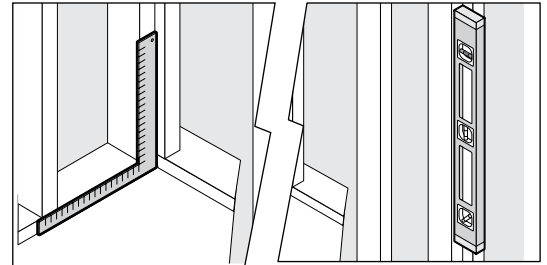

FIGURE 1. Check that studs are plumb with floor/shower.
- f. Check that the sub floor for the shower base is level and studs are plumb to the sub floor. (Fig. 1)